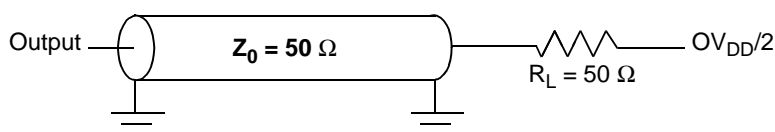

Figure 13. Alternate AC Test Load for the JTAG Interface
1. All outputs are measured from the midpoint voltage of the falling/rising edge of TCLK to the midpoint of the signal in question. The output timings are measured at the pins. All output timings assume a purely resistive 50-Ω load (see Figure 13). Time-of-flight delays must be added for trace lengths, vias, and connectors in the system.
Figure 13 provides the AC test load for TDO and the boundary-scan outputs of the MPC7451.